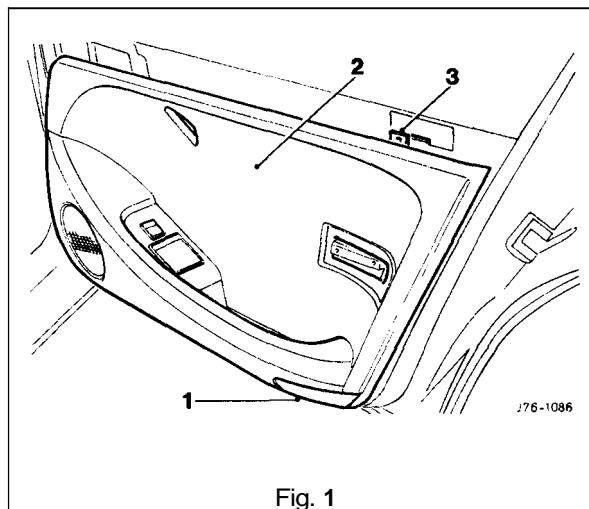

Fig. 1
- From inside the door pocket, release the puddle lamp (1 Fig. 1) securing quarter turn fastener.
- Displace the trim panel (2 Fig. 1) from door retaining clips.
- Displace trim pad from the upper retaining tang (3 Fig. 1).